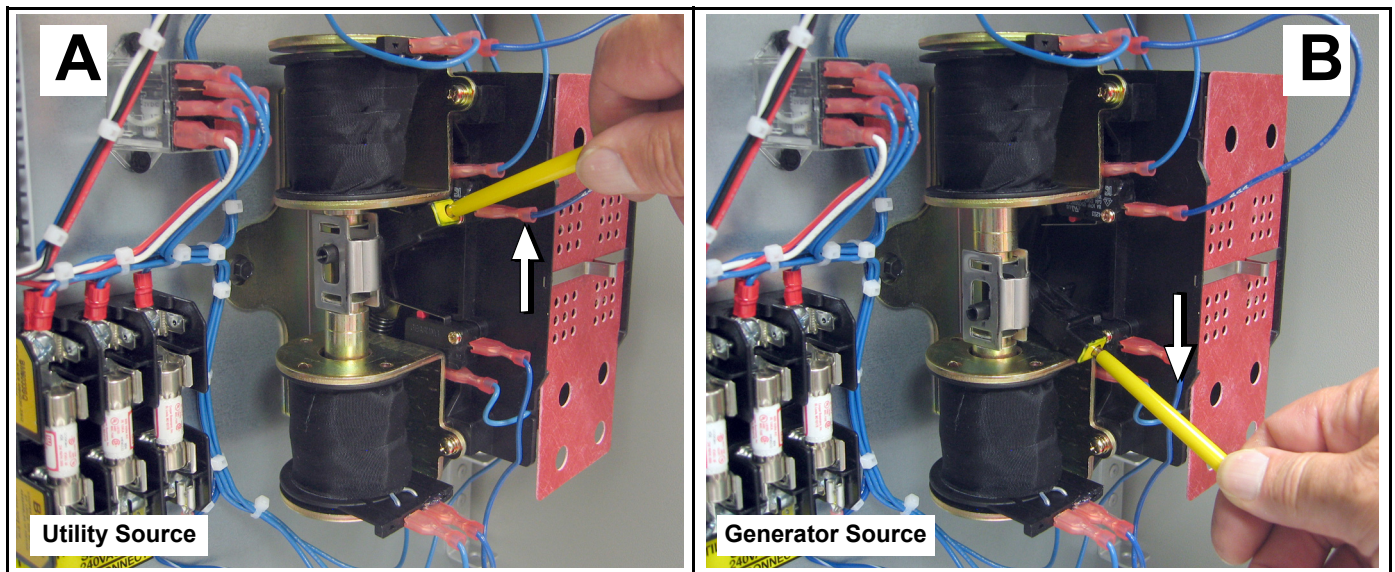

Figure 4-6. Exercise Transfer Switch
- CUSTOMER LOAD (T1 and T2) is connected to UTILITY SOURCE (N1 and N2). See A of Figure 4-6.
- CUSTOMER LOAD (T1 and T2) is connected to GENERATOR SOURCE (E1 and E2). See B of Figure 4-6.